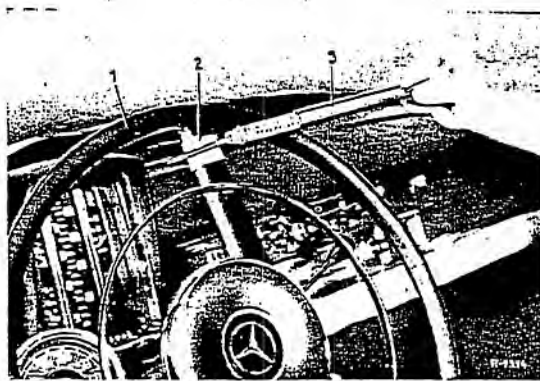

Fig. 46-23/2
2. Hook the spring scale (3) over one of the two steering wheel spokes and turn the wheel while holding the gage at an angle of  $90^\circ$  (Fig. 46-23/2).